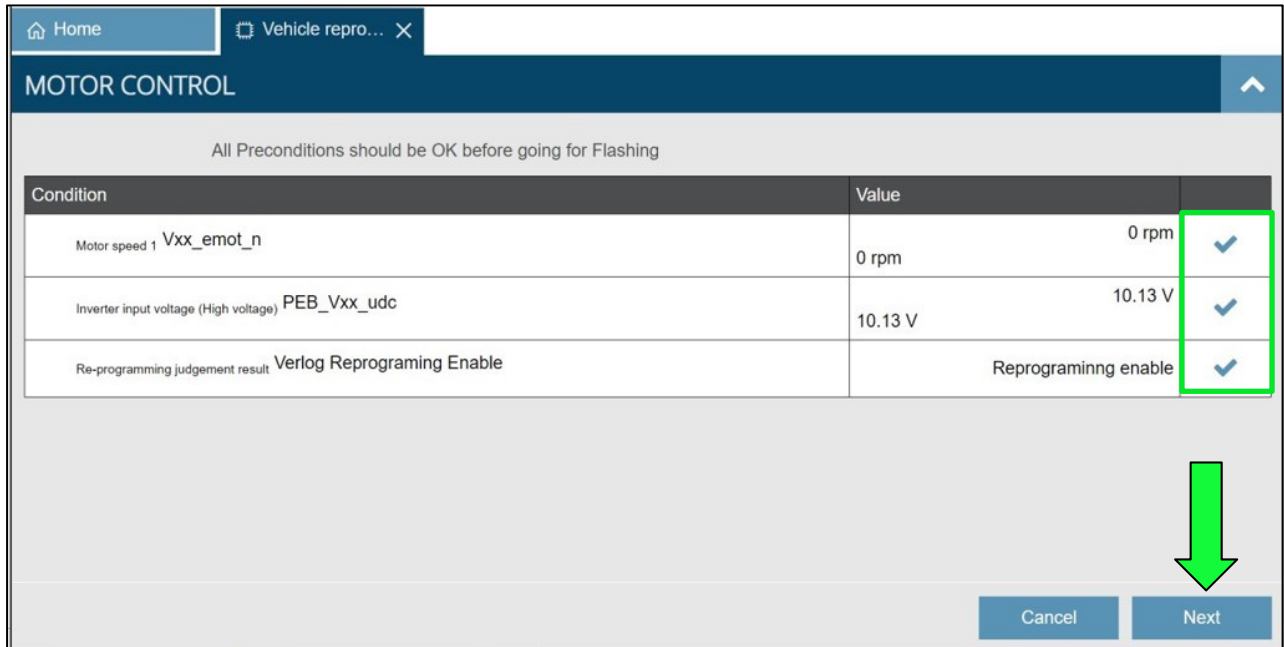

Figure 15
20. Once all three (3) items display a check mark, as shown in Figure 15, select **Next**.